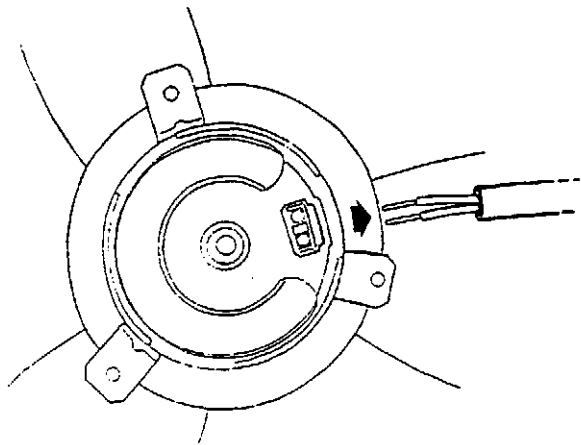

Figure 8. Separating connectors & removing cable
3. Use a soldering iron to heat the electric leads. Separate the connectors and remove the cable. See Figure 8. Be sure to note the proper orientation of the cables.